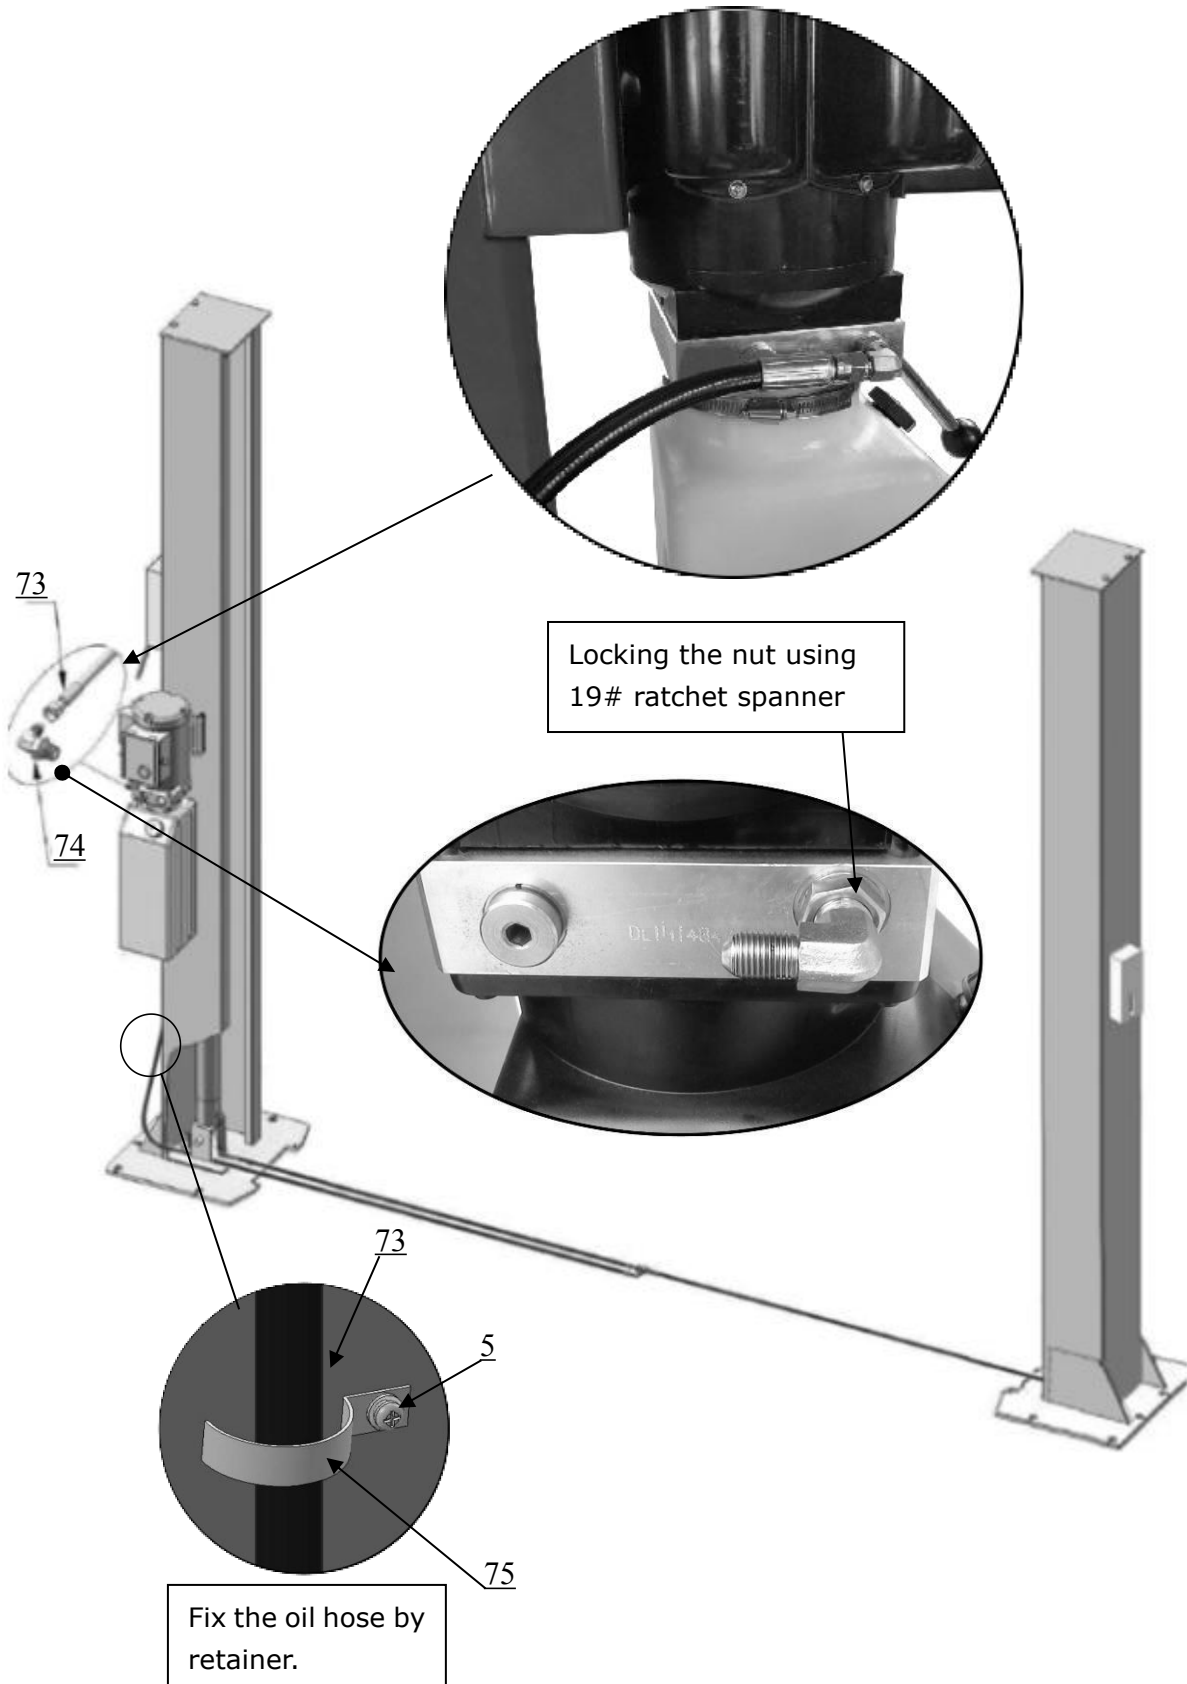

Fig.21
J. Install hydraulic power unit and oil hose assy. (See Fig. 21).